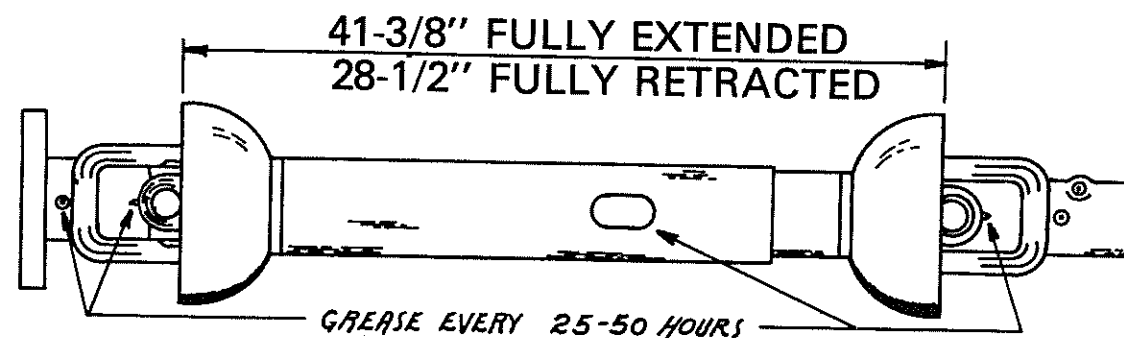

FIG. 1
The universal drive shaft should be lubricated with a good grade of Lithium Soap Base Grease every 25 to 50 hours of operation there are four (4) grease fittings to grease as shown in Figure 1.